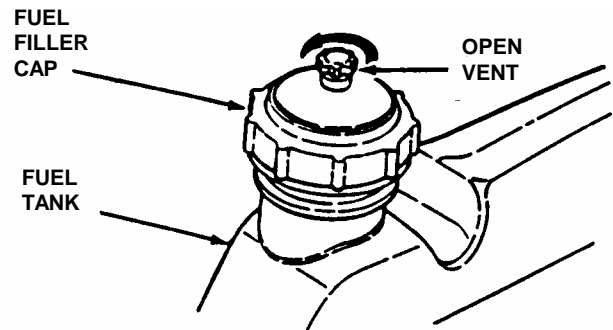

FIGURE 2.3
**2.1.6.** Add fuel to tank of the YARD CRUISER outside where fumes can safely dissipate. Make sure fuel filler cap is tight and vent is open after refueling. See Figure 2.3. Refer to engine owner's manual for fuel specifications.
1. Make sure fuel cap is on tight and vent is closed. Turn fuel shut off valve (If equipped) to the "CLOSED" position. Start engine and allow it to run until engine runs out of fuel. See Figure 2.3.